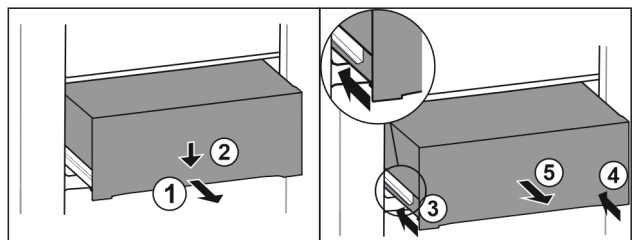

Fig. 115
- ▶ Pull out drawer half-way. Fig. 115 (1)
- ▶ Push the drawer down at the front. Fig. 115 (2)
- ▶ Push the left rail in by about 2 cm. Fig. 115 (3)
- ▶ Push the right rail in by about 2 cm. Fig. 115 (4)
- ▶ Remove drawer to the front. Fig. 115 (5)